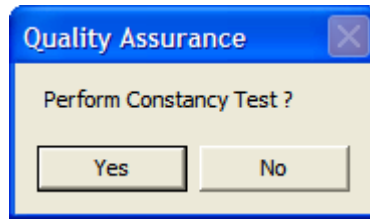

Figure 5-8
10. If the calibration was successful, Eu152 Linearity Correction results appear on the screen and the software prompts you to perform Constancy Test as shown in Figure 5-8. Click the button or press the *Y* key to proceed. Otherwise, click the button or press the *N* key to exit the Auto Calibration procedure.